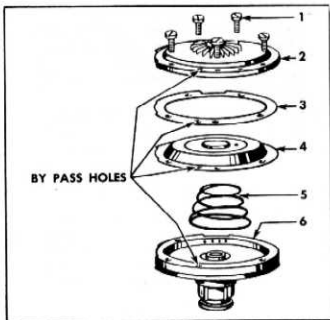

Fig. 14
20. Place the piston assembly hub down on a bench and scratch alignment marks between the front and rear piston plates. Unscrew piston plate retaining screws (1) and separate piston plate (2), gasket (3), diaphragm assembly (4) and reaction spring (5) from piston (fig. 14).